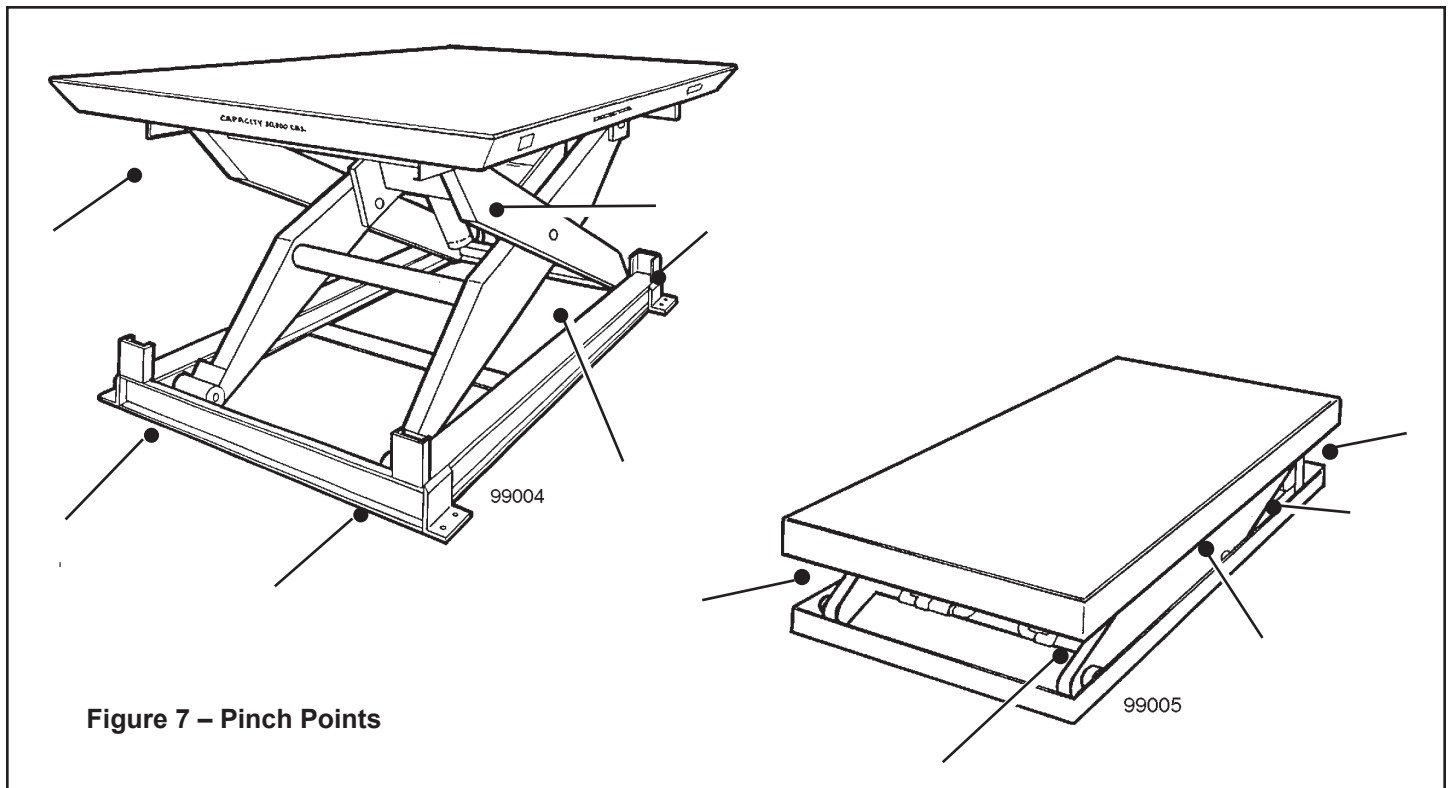

Figure 7 – Pinch Points
The warning labels on the lift are there for your safety. If you find that the labels are worn or missing, or have been painted over, ask Maintenance to replace the labels before you use the lift. The labels are shown in Figure 7.
• The warning labels on the lift are there for the safety of the operators. See Figure 7.